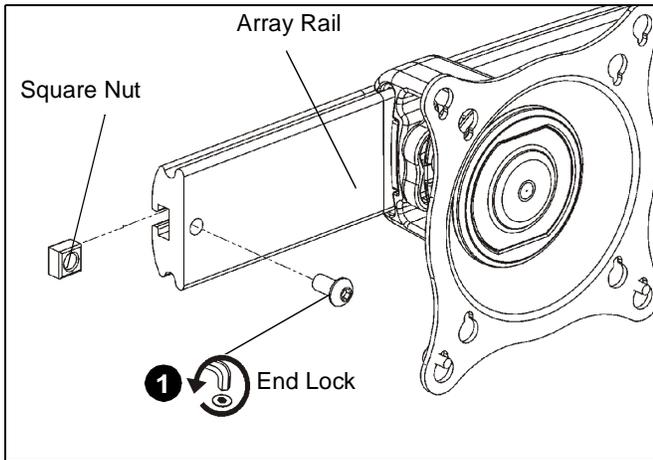

Figure 1
1. Remove end lock from array rail ends to be joined using 5/32" hex key. (See Figure 1)